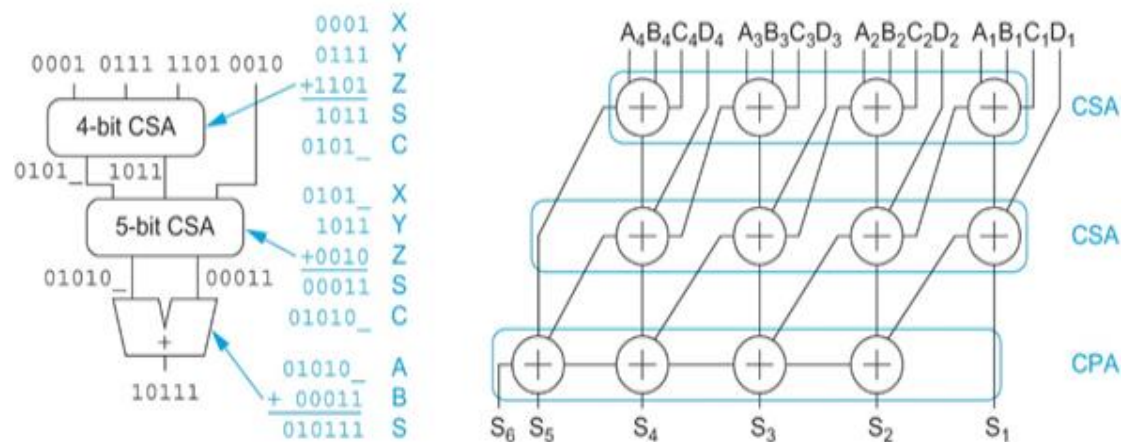

Fig.1
1. Design a 20-bit 2's complement multioperand adder ($A+B+C+D+E$) using Carry-Save Adder + Sklansky carry lookahead adder. To further optimize the delay, each module can have different size. **The goal is to have minimum critical path delay time with the least gate count. Assume there is no overflow during the additions. The internal word length of each module is 20 bits (60)**
- (a) Show your block diagram like that shown in Fig.1. The CPA in Fig.1 shall be the Sklansky carry lookahead adder with variable group size. Indicate the critical path. Expalin your design concept and the decision of group size (20)
- (b) For each block, you shall show its logic design diagram. Indicate the critical path. Explain your design concepts (20).
- (d) Indicate the overall module used in terms of the number of 1-bit FA, 1-bit PG, Mux2, Valency-2 cells and XOR2. (10)